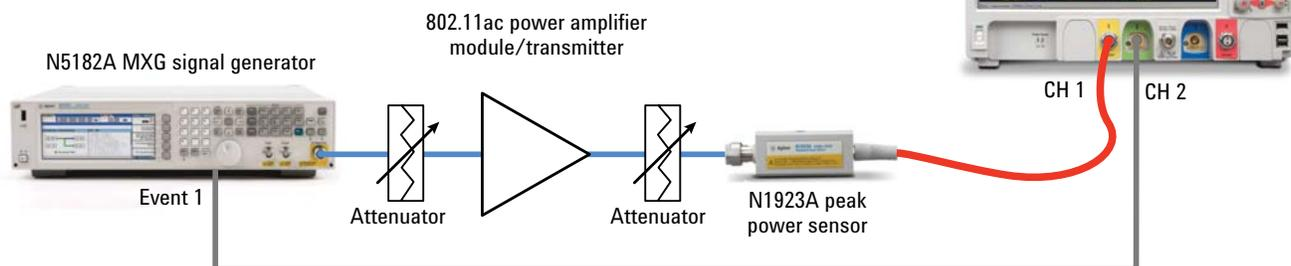

Figure 2. 802.11ac transmitter power measurement setup diagram
One of the key 802.11ac transmitter performance tests is output power. During the design and development stage, the output power is measured and validated to meet the regulatory specification. The power measurement setup shown in Figure 2, measures the average, peak, and peak-to-average